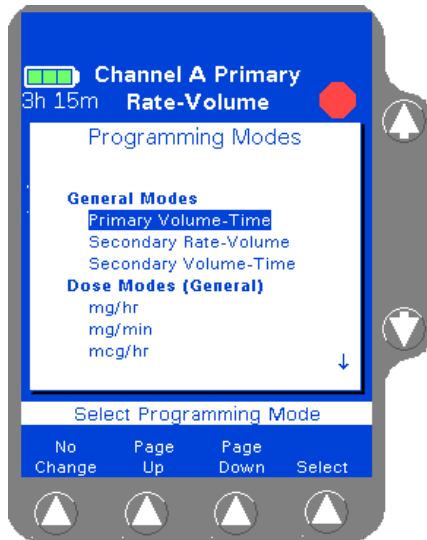

Figure 4-52 Programming Modes
2. From the Programming screen, press the **Change Mode** soft key. The Programming Modes menu is displayed (Figure 4-52).